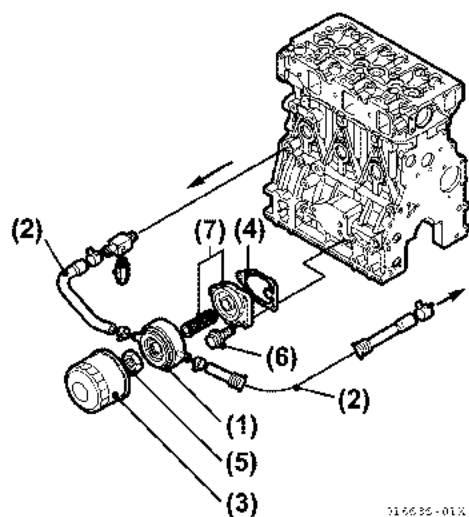

Figure 5-171
44. Install the filter bracket and gasket on the cylinder block (Figure 5-171).
45. Install the lubricating oil cooler to the filter bracket. Tighten the lubricating oil cooler nut (Figure 5-171, (5)).
46. Install the freshwater pipes: cylinder block, lubricating oil cooler, lubricating oil cooler, freshwater pump (Figure 5-171).
47. Install the lubricating oil filter with the filter case remover tool (Figure 5-171).